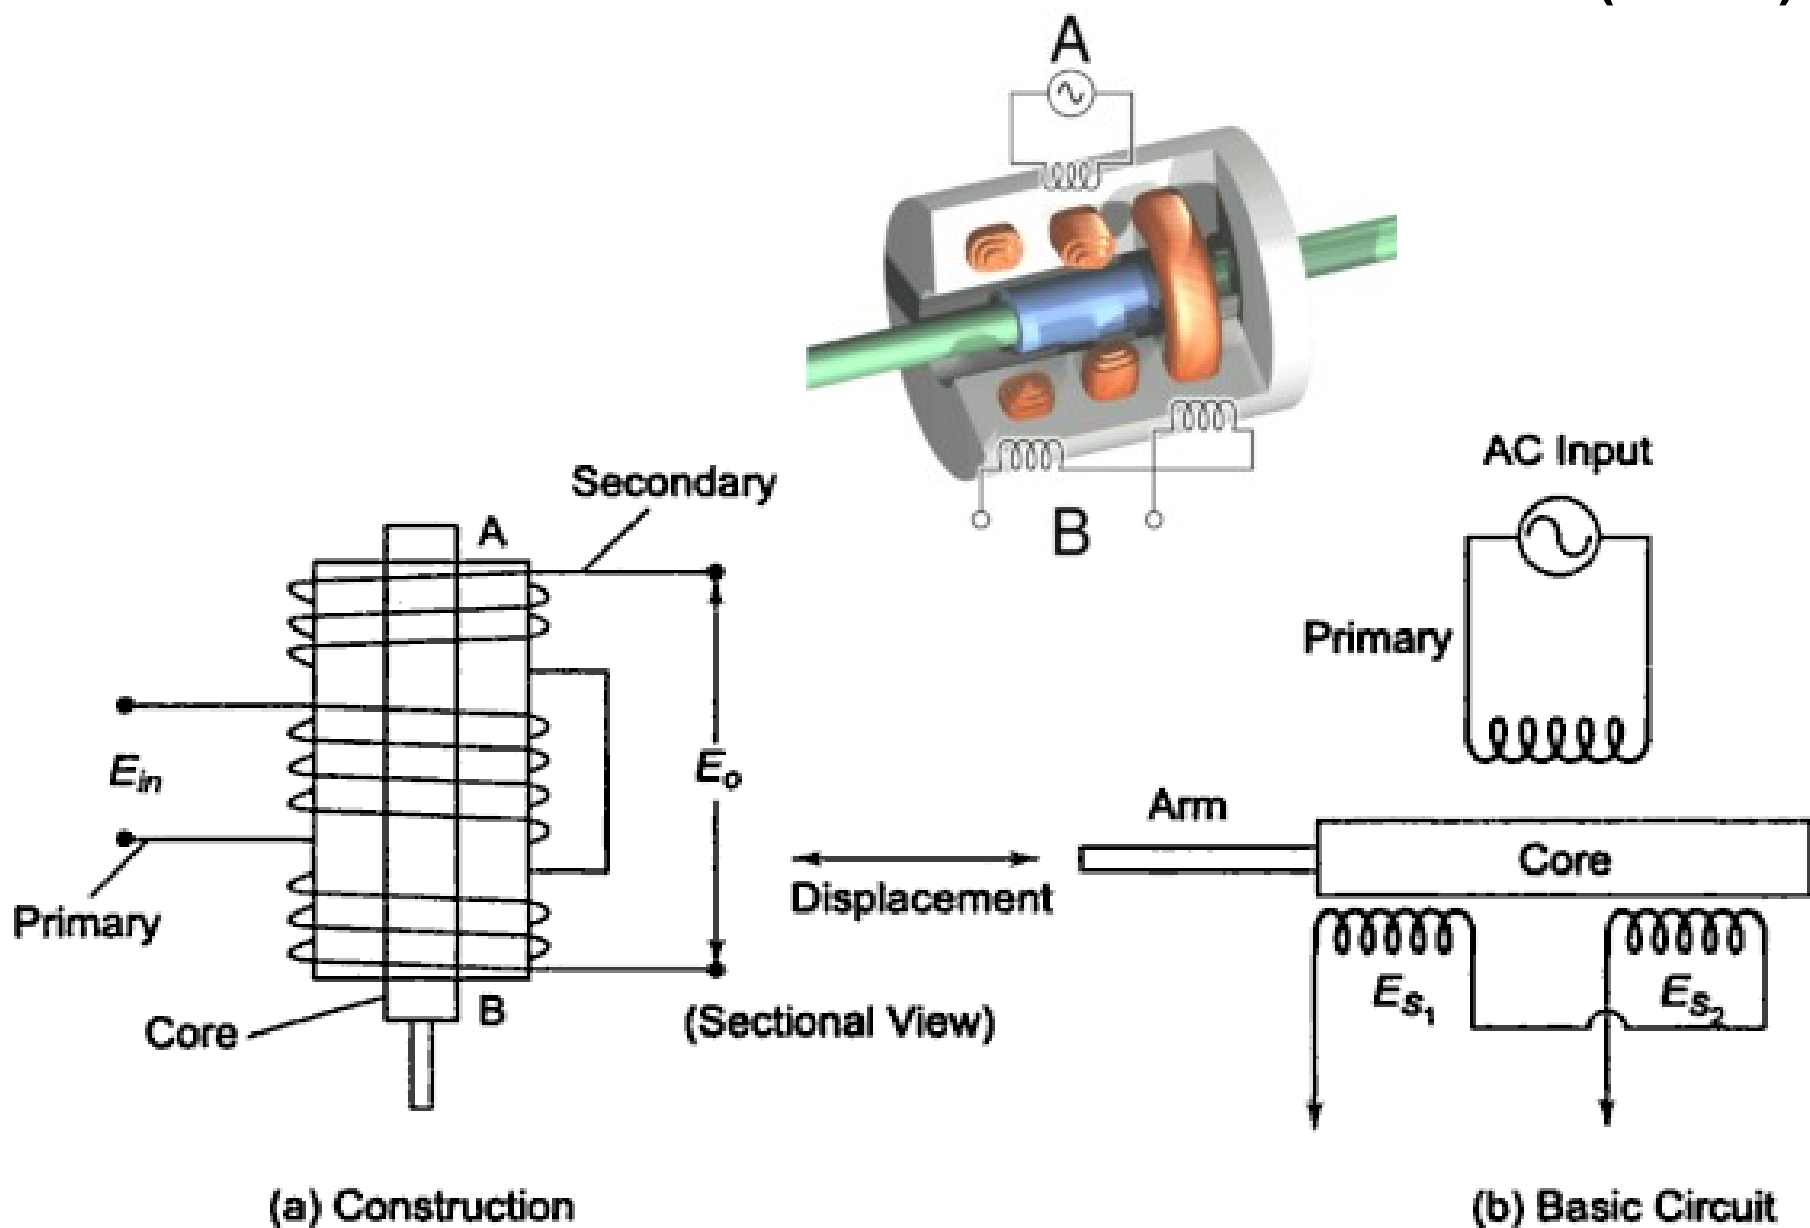

Fig. 13.20 ■ Secondary Winding Connected for Differential Output
- In order to convert the output from S1 to S2 into a single voltage signal, the two secondaries S1 and S2 are connected in series opposition (as shown in fig. 13.20)